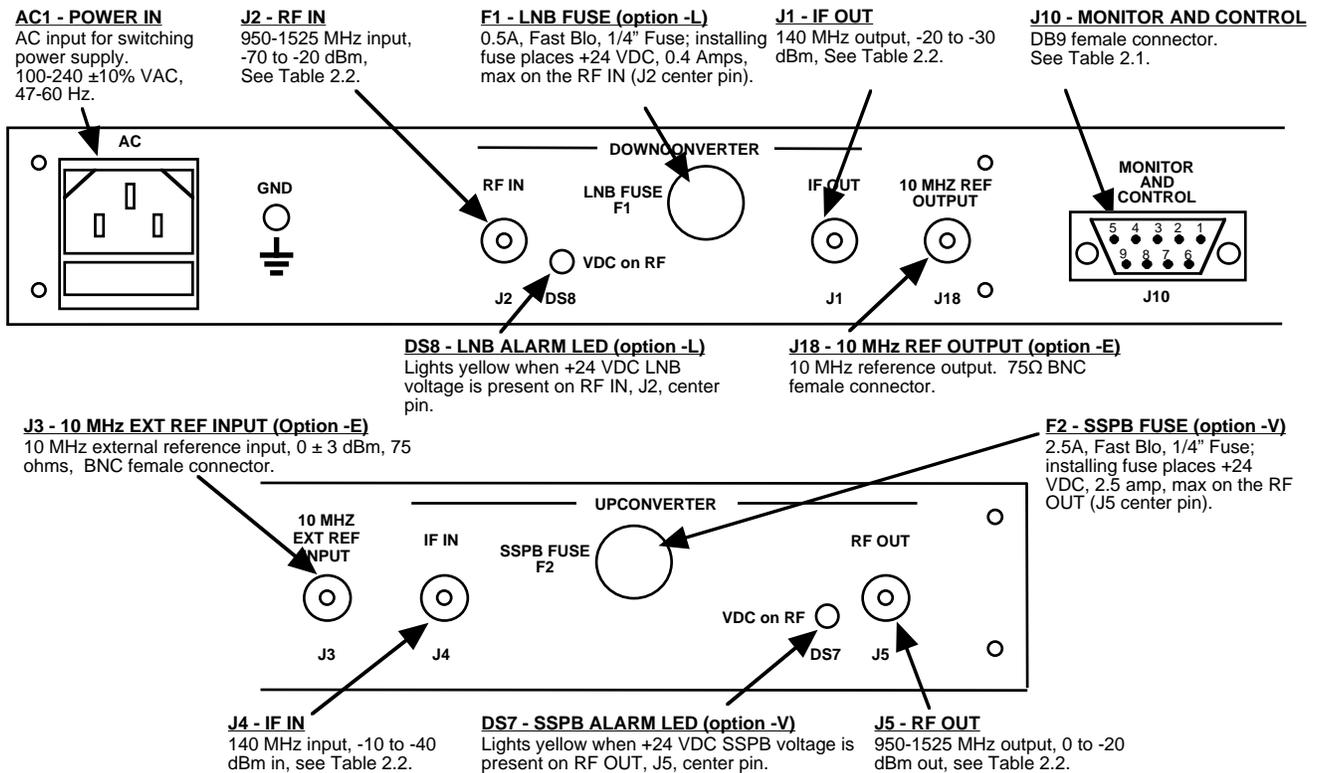

Figure 2.1 Model 2017-05 Rear Panel I/O's
Figure 2.1 shows the input and output connectors on the rear panel.
- 1.) Connect a -40 dBm to -10 dBm signal to IF In, J4 (Figure 2.1).
- 1.) Connect a -70 dBm to -20 dBm signal to RF In, J2 (Figure 2.1).